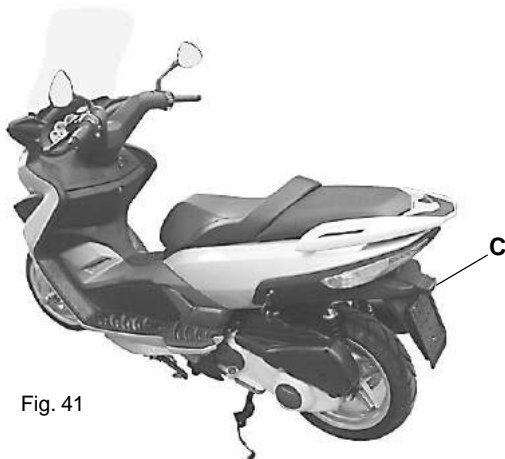

Fig. 41
- **Number plate light (C - Fig. 41)**
To check if number plate light (C - Fig. 41) is working properly, flick the light switch, which is on the right-hand side control, to its central position and turn the key to starting position.